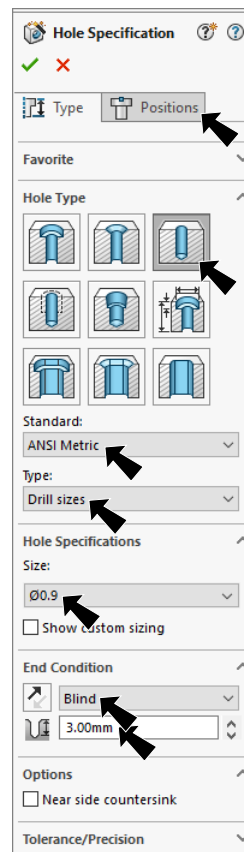

Fig. 18
Step 3. In the Property Manager set: under Hole Type, **Fig. 18**